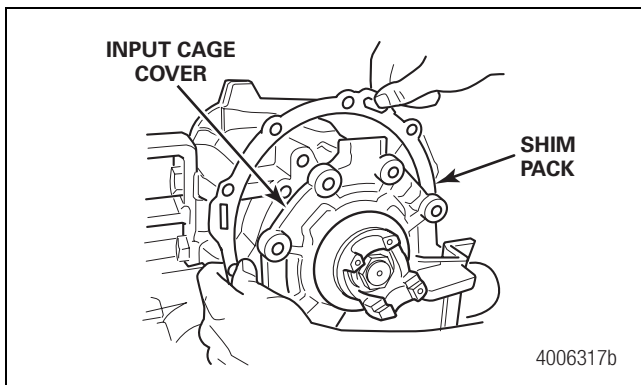

Figure 15
- Install the shim pack and the input cage cover. Figure 15.